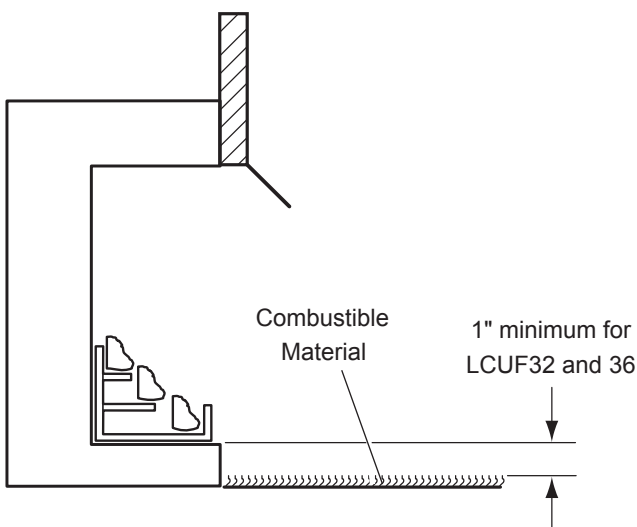

**Figure 4 - Clearance and Height Requirements**
Ensure that minimum clearances shown in Figures 4 through 7 are maintained. Left and right clearances are determined when facing the front of the firebox.
1. **Sidewall clearances:** The clearance from the inside of the appliance to any combustible wall should not be less than 6". See Figure 4.
2. **Ceiling clearance:** The ceiling must be at least 42" from the top of the firebox opening. See Figure 4.